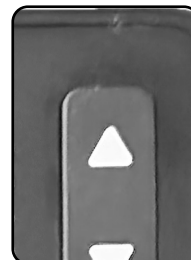

Fig. 8.1
- To increase speed, press the up arrow button [  ] on the joystick (Fig. 8.1).